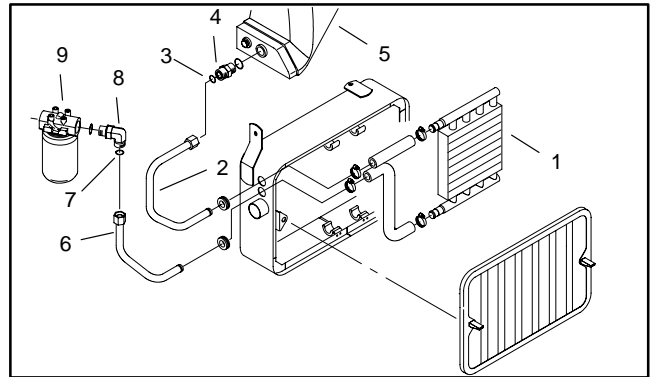

Figure 20
- B. Open drain petcock (39) on the back of the radiator. Drain radiator completely and close petcock.
7. Disconnect hydraulic oil cooler if installed (Fig. 20).